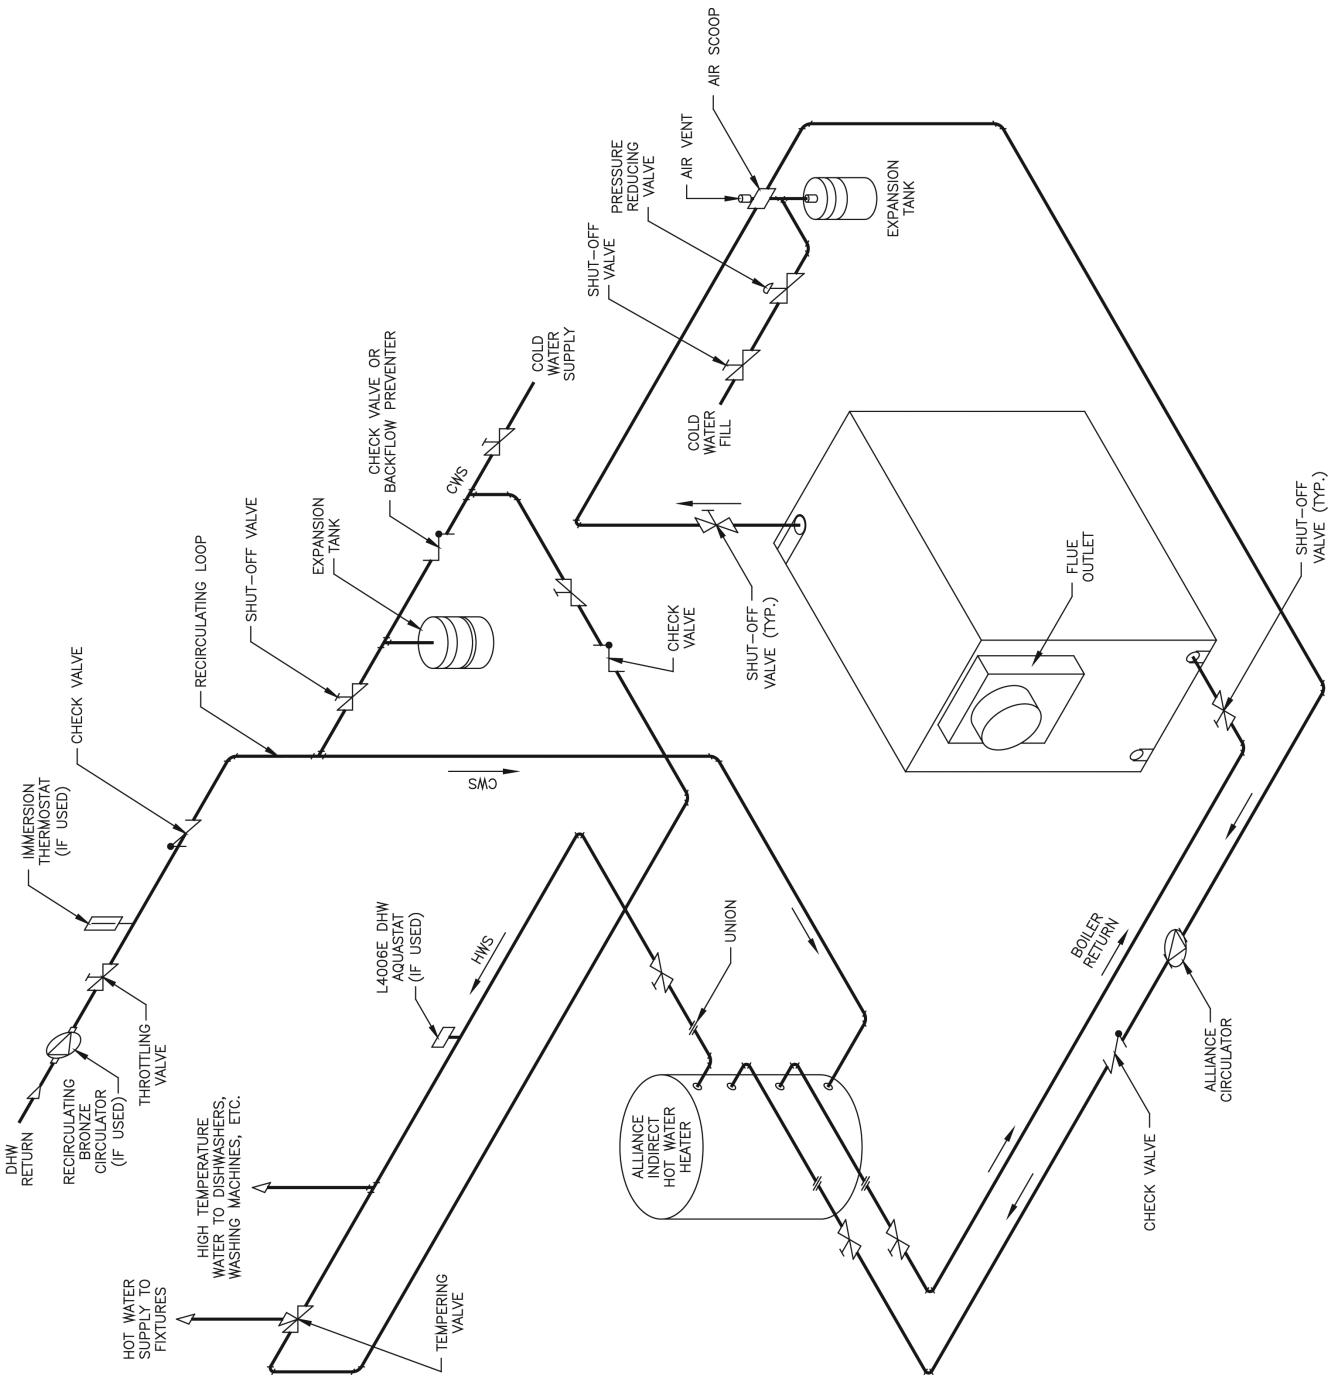

Figure 34c: DHW Generation with Indirect Water Heater
3. **Hot Water Boiler/Indirect Water Heater** - The use of indirect water heaters for domestic hot water generation is common and somewhat advantageous over tankless coils alone, since they also provide DHW storage. A tempering valve and recirculating pump are again recommended for a dual temperature system, to provide a constant temperature to the fixtures without waiting for cooler water to warm up. Figure 34c shows a typical indirect heater piping application with no space heating. Indirect pump flow rates are calculated based on a 20°F ΔT.